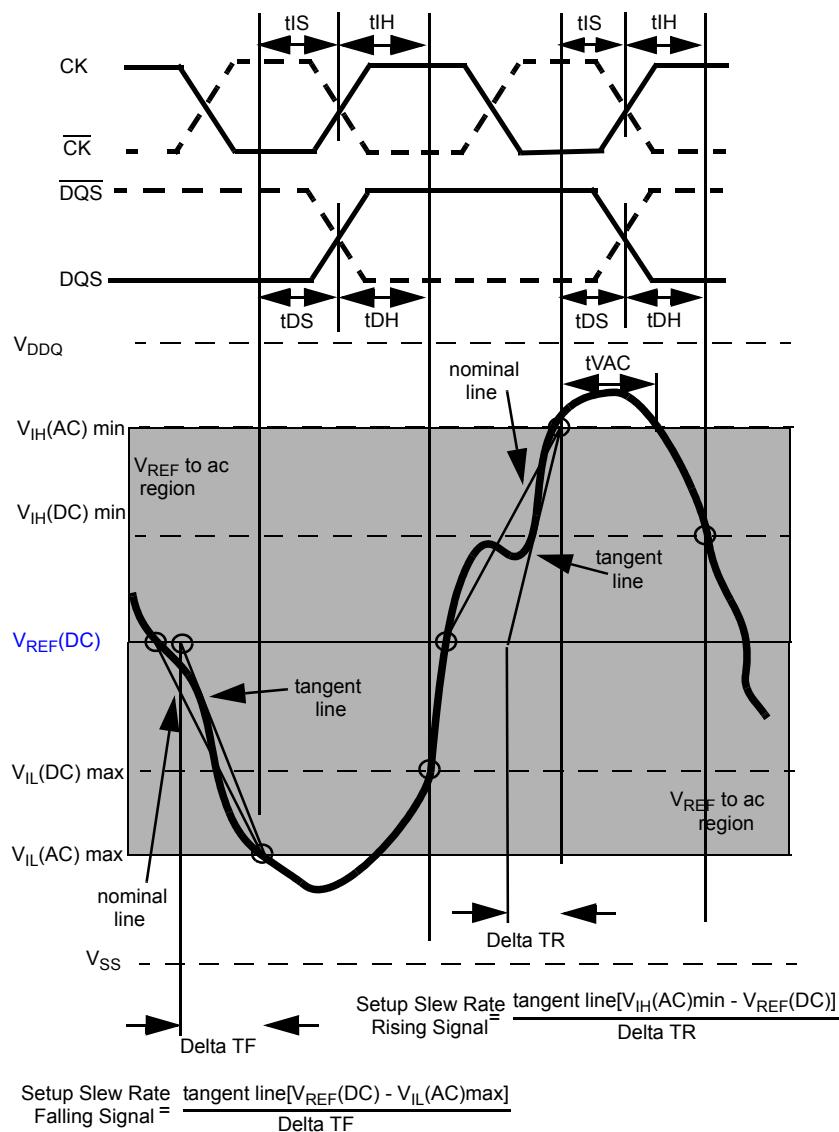

Figure 23. Illustration of tangent line for setup time tDS (for DQ with respect to strobe) and tIS (for ADD/CMD with respect to clock)
the slew rate between the last crossing of $V_{REF}(DC)$ and the first crossing of $V_{IL}(AC)_{max}$. If the actual signal is always earlier than the nominal slew rate line between shaded 'V_{REF}(DC) to ac region', use nominal slew rate for derating value (see Figure 23). If the actual signal is later than the nominal slew rate line anywhere between shaded 'V_{REF}(DC) to ac region', the slew rate of a tangent line to the actual signal from the ac level to dc level is used for derating value (see Figure 25).